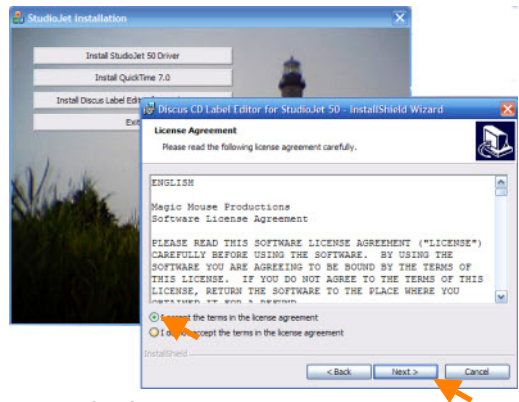

Figure 2.18
3. You must accept the Discus license agreement before installing Discus. Click **Next** to continue (Figure 2.18)